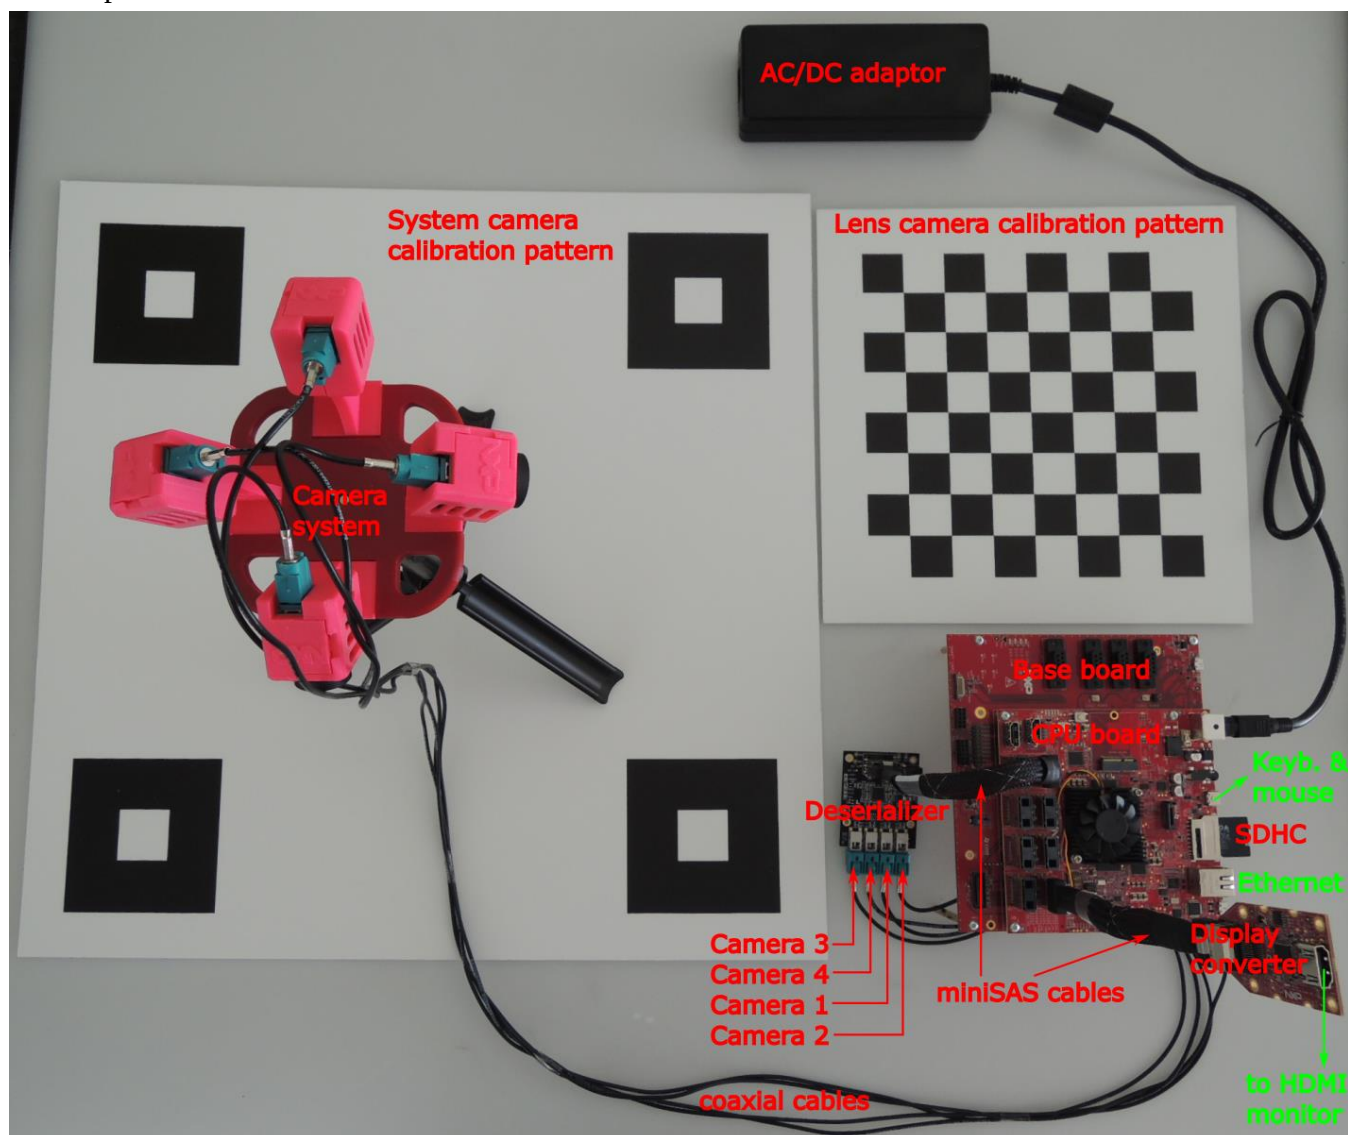

Figure 1. Surround View development platform based on i.MX 8QM device
The Surround View development platform consists of the parts listed in Table 1 (see also Figure 1). It is supposed that you can build the demo kit yourself using all released HW and SW sources.
- Connect all boards as shown in Figure 1. Connect the deserializer to the MIPI-CSIO connector and the display converter to the LVDS0-CH0 connector on the CPU board. Interconnect these boards using miniSAS cables.
- Interconnect all cameras with the deserializer using the coaxial cables. Keep the right camera order (see Figure 1). Keep the clockwise camera connection on the camera stand. That means